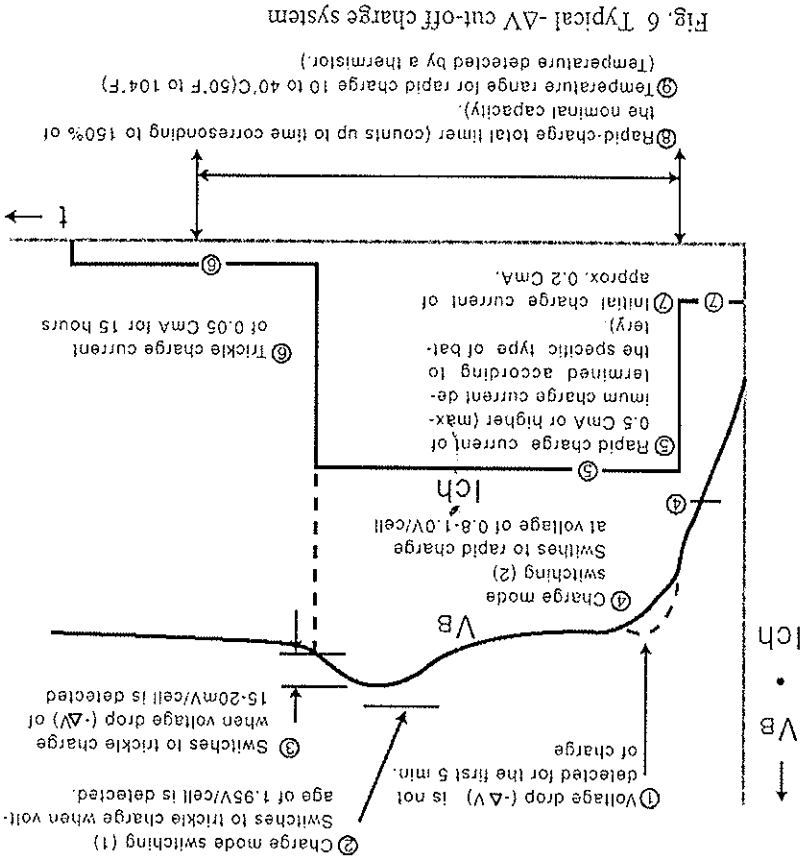

Fig. 6 Typical -ΔV cut-off charge system
- ◆ The charge current should be 0.5 CmA ~ 1 CmA. If charged at less than 0.5 CmA, the voltage drop after the peak voltage is reached might be too small for the -ΔV cut-off to function, resulting in overcharge. The maximum charge current will vary according to the specific type of battery, so it is important to select the appropriate charge current. (See (5) in Fig. 6)
(3) General specifications
- ◆ **False -ΔV phenomenon:** When Ni-Cd batteries are left unused for a long period of time or excessively discharged, the charge voltage (false -ΔV) may swing at the beginning of charge. (See (1) in Fig 6)
- ◆ Be sure that the -ΔV value is correct. If it is not, faulty operation (overcharge or insufficient charge) of the charger might occur. (See (1) in Fig. 6)
current when the charge voltage reaches the predetermined level. This predetermined level varies according to the type of battery. The trickle charge current should be 0.05 CmA. (See (2) and (6) in Fig. 6)
- ◆ If a voltage detection switch is provided in order to switch the charger to the rapid charge mode, set the voltage value to 0.8 to 1.0 V/cell. In addition, for the period of initial charge (before the start of rapid charge) until the battery voltage reaches the predetermined level, set the charge current to approximately 0.2 CmA. (See (5) and (7) in Fig. 6) Provide a total timer in the charge circuit as a double-safety control. (See (8) in Fig. 6)
switches to trickle charge if the temperature is not within the specified range for rapid charge. Therefore, a thermistor or other temperature-detecting element must be provided inside the battery pack, and the battery pack will have a 3-terminal construction. (See (9) in Fig. 6 and Fig. 7)